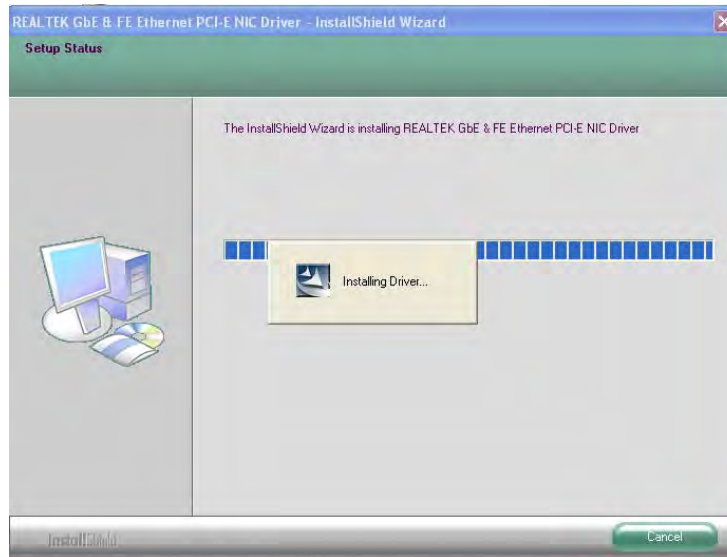

Figure 6-15: LAN Driver Setup Status Screen
Step 9: The **Setup Status** screen in **Figure 6-15** appears.